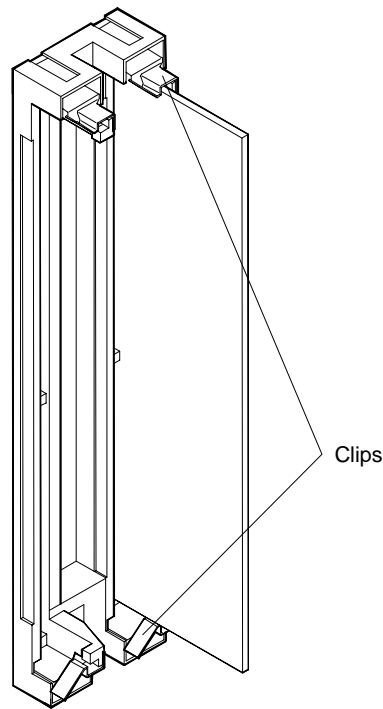

Figure 4-9 Securing the SIMM
4. Using equal pressure at the ends of the SIMM, push the SIMM until it locks into the locking tabs on the ends of the socket (see Figure 4-9).